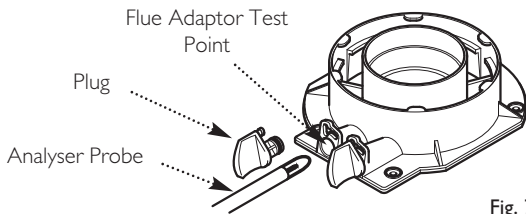

Fig. 78
7. Remove the plug from the flue sampling test point. Insert the analyser probe and allow sufficient time for the reading to settle (Fig. 78).